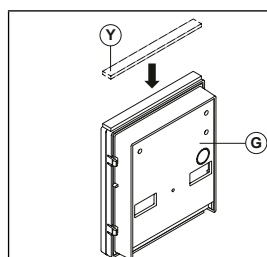

Fig. 7
Apply the (Y) seal as shown in **Fig. 7**.